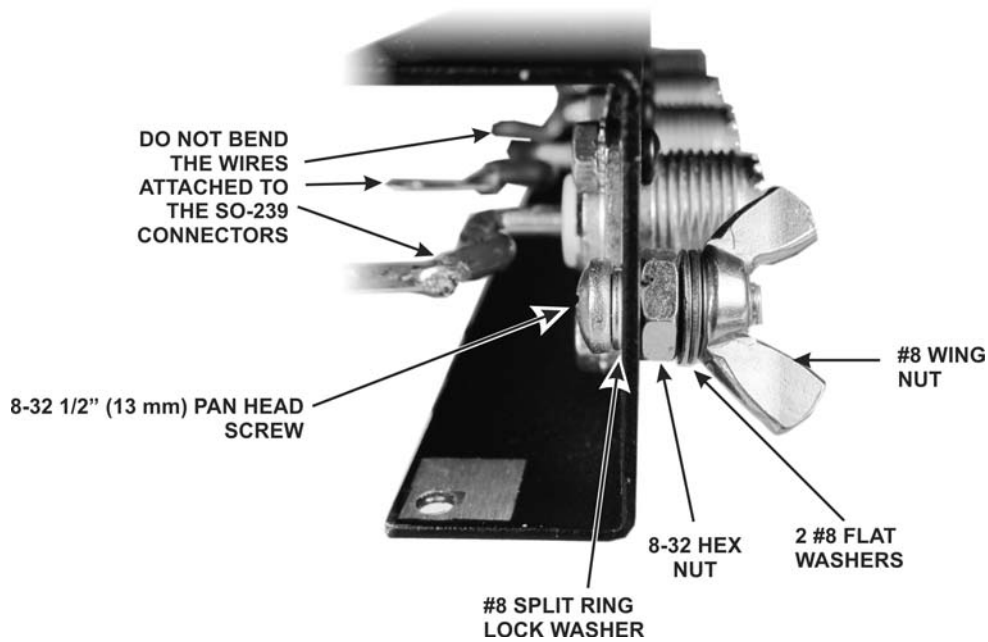

Figure 20. Installing the Ground Terminal.
□ Mount the ground terminal at the end of the rear panel next to the ANT 3 connector as shown in Figure 20. Install the screw, lock washer and nut first and secure the nut so the screw cannot turn. Then add the two flat washers and the wing nut.